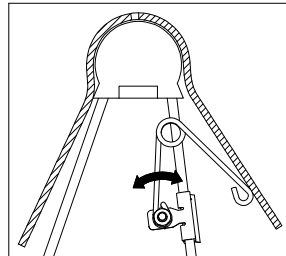

Figure F1: Cutaway view of driver side pivot arm and saddle.
2. Adjust the resting angle of your coupler plate by rotating the spring on the driver side pivot arm. Pulling the top of the spring away from the cab will increase the angle of the coupler plate. Set the angle of the coupler so that head will tilt away from the cab when coupling, see Figure F1. Tighten the 1/4" nut once the spring's orientation is set.